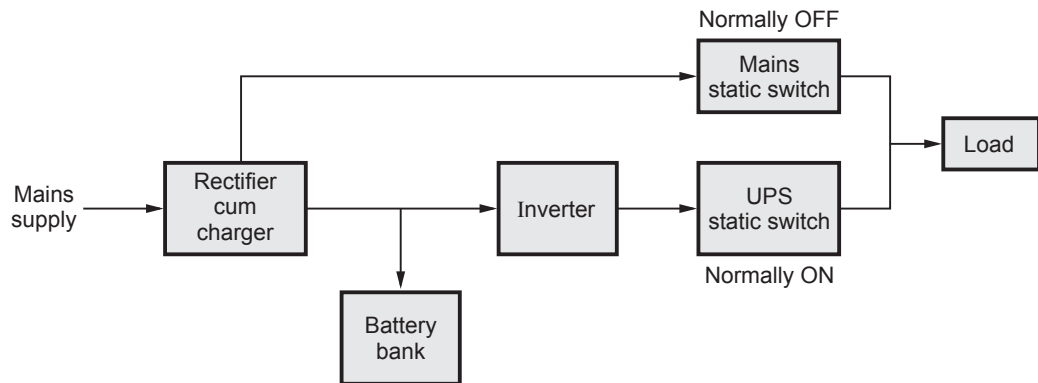

Fig. 6.10.1 Block diagram of online UPS system
- The online UPS is also called inverter preferred UPS. Fig. 6.10.1 shows the block diagram of online UPS.